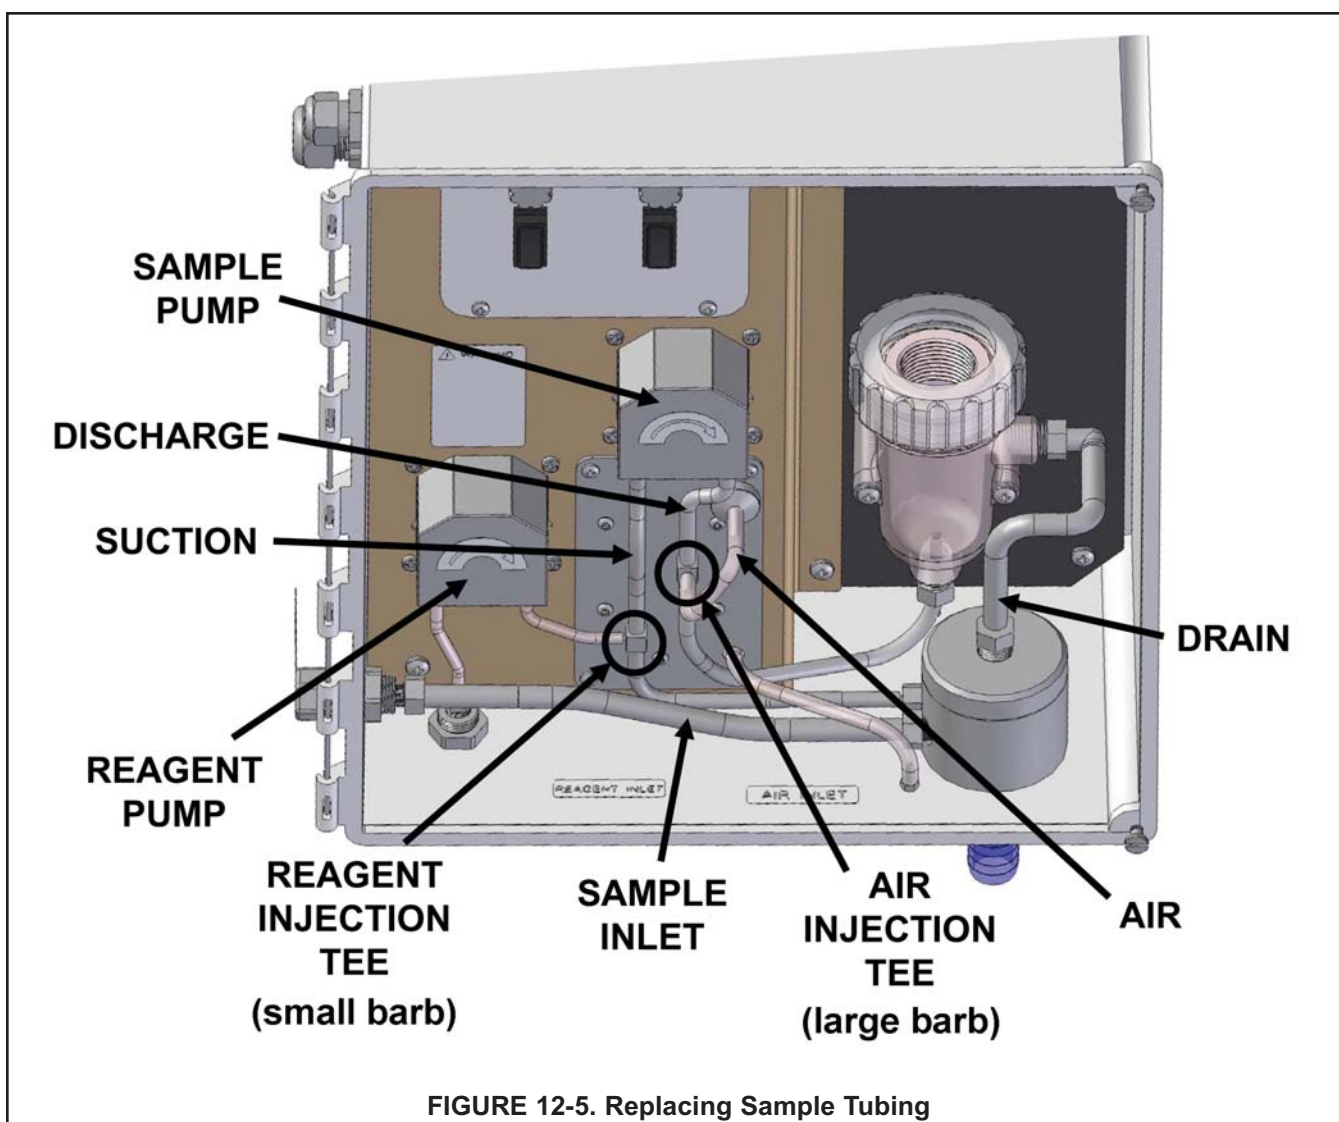

FIGURE 12-5. Replacing Sample Tubing
1. Sample tubing is shown in Figure 12-5.